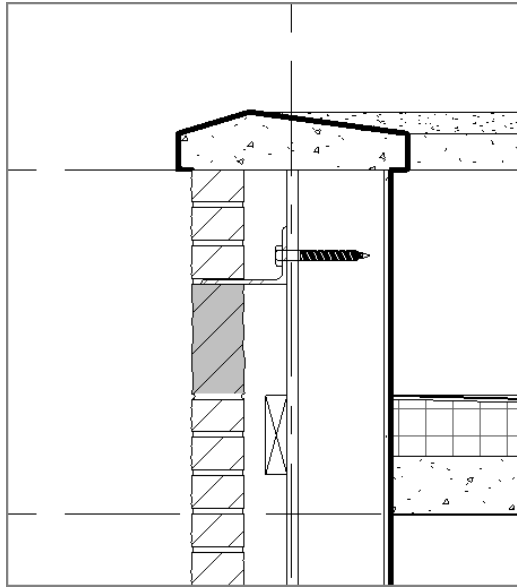

FIGURE 12.40: Adding the wood blocking
7. Select the Annotate tab, click the Component ➤ Detail Component button, and place the 2×6 (51×152) into the wall, as shown in Figure 12.40.
12. Click **OK**. Your blocking should look like Figure 12.40.